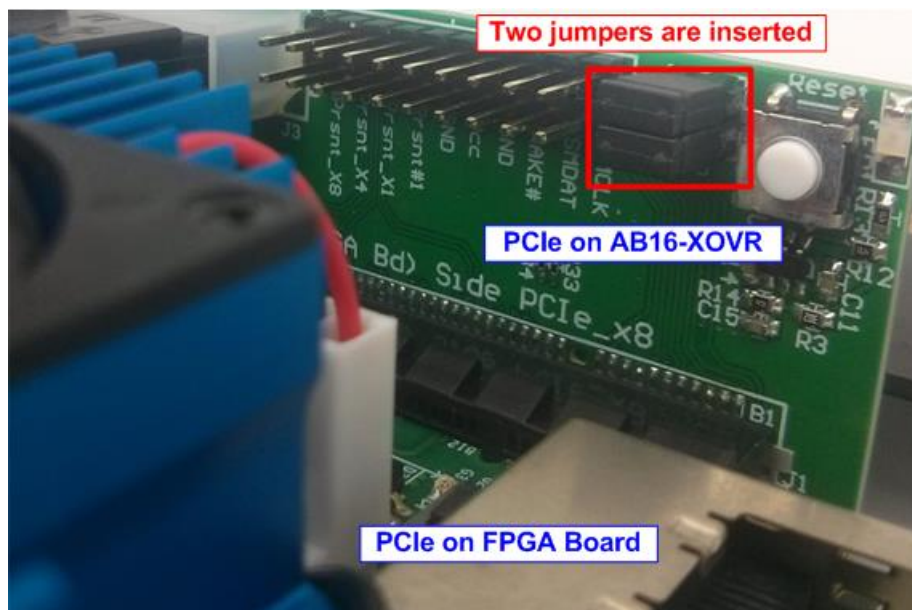

Figure 2-2 Connect PCIe connector between AB16 and FPGA board
- Connect A Side of PCIe connector on AB16-PCIeXOVR board to PCIe connector on FPGA board, as shown in Figure 2-2.